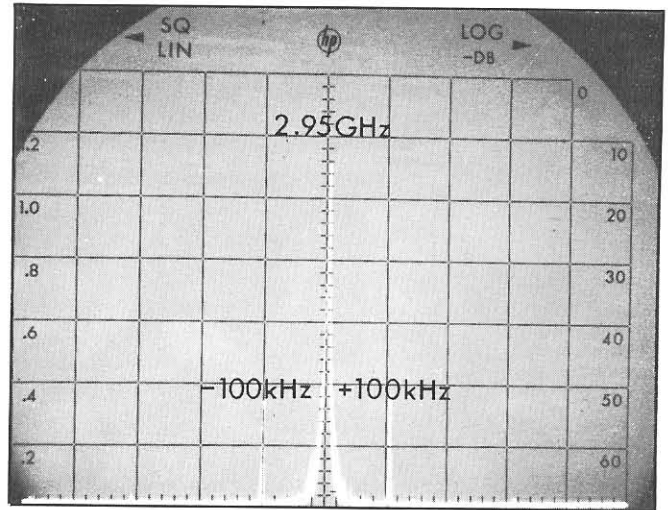

Figure 5-1. Spectrum Analyzer Display
j. Observe 100kHz sideband and adjust capacitor (A1C13) for minimum side bands (see Figure 5-1). Side bands should be 30 dB below 2.95 GHz reference.